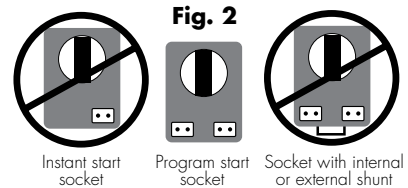

Fig. 2
- Never use shunted or instant start lamp sockets with DaliPRO ballasts (See Figure 2).